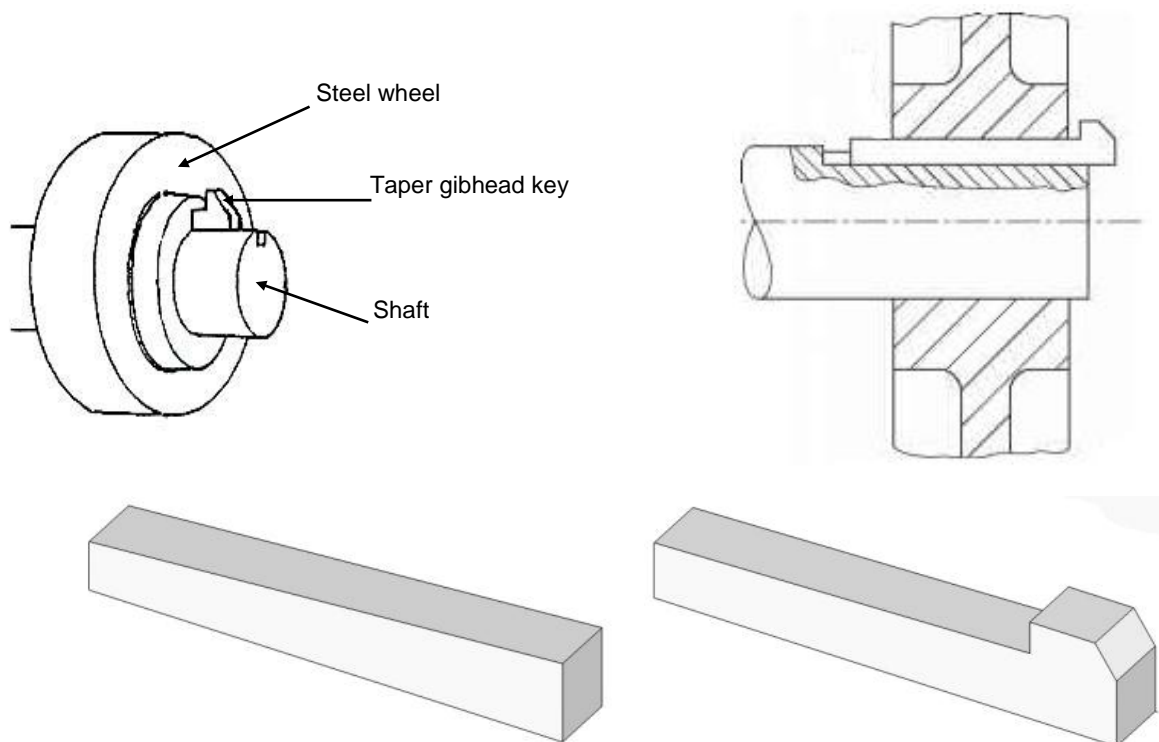

FIG 14.
A. A taper or gibhead key is used to key a component in position on a shaft. It is normally used on larger shafts. (Fig 14)